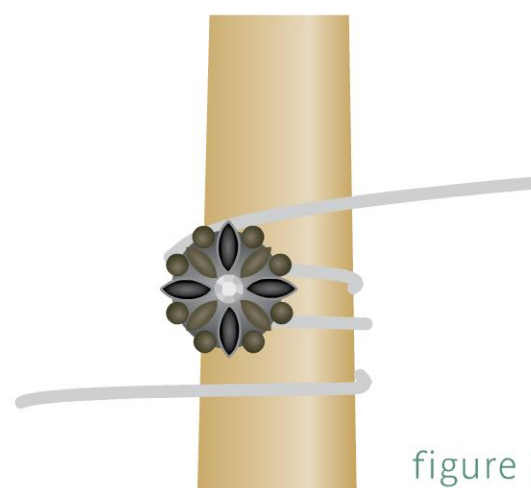

figure 3
- 4 Wrap both wire ends one more time around the mandrel (Figure 3).